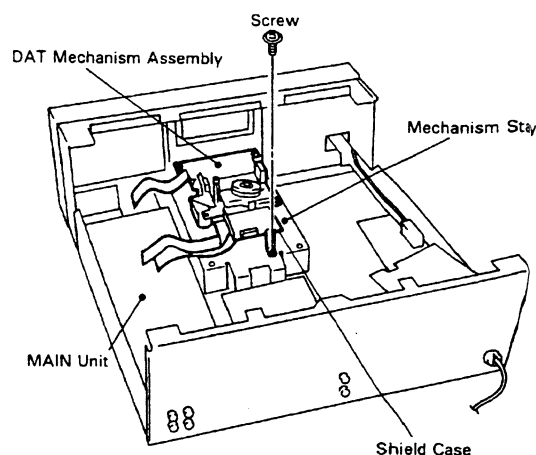

Fig. 2-3
3. Place the DAT mechanism assembly so onto the mechanism stay that the motor pulley at the lower surface is not in contact with anything, and fix the shield case of the DAT mechanism assembly with a screw. (Refer to Fig. 2-3)
2. DATメカ ASSY下面のモータープーリーが他に触れないようにメカステイの上にのせ、DATメカ ASSYのシールドケースをネジで固定する。(図2-3参照)